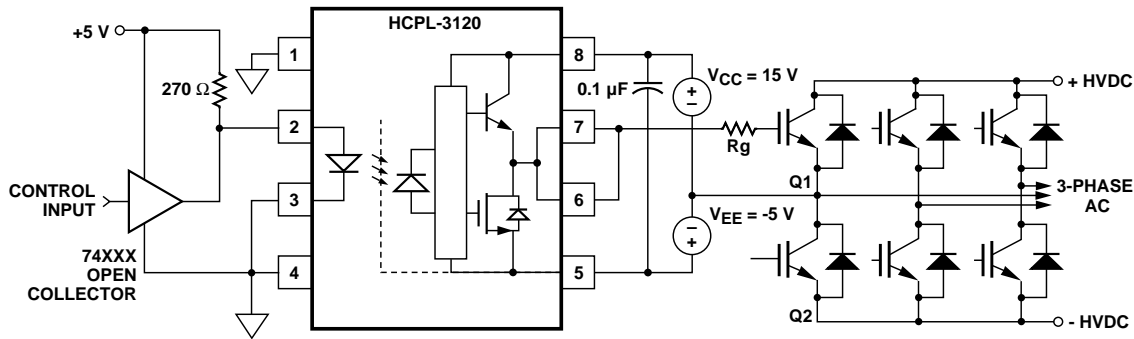

Figure 26. HCPL-3120 Typical Application Circuit with Negative IGBT Gate Drive.
Step 1: Calculate R_g Minimum from the I_{OL} Peak Specification. The IGBT and R_g in Figure 26 can be analyzed as a simple RC circuit with a voltage supplied by the HCPL-3120.
For the circuit in Figure 26 with I_F (worst case) = 16 mA, $R_G = 8 \Omega$, Max Duty Cycle = 80%, $Q_G = 500 \text{ nC}$, $f = 20 \text{ kHz}$ and $T_A \text{ max} = 85^\circ\text{C}$: